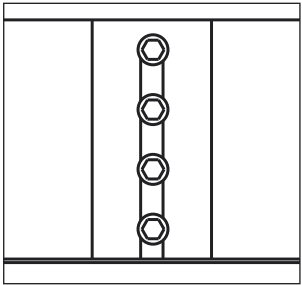

Figure 6: Clearance Holes
6. Drill four 0.266" (~17/64") clearance holes through the front and rear walls of the tube at each marked stud location. Refer to **Figure 6**.